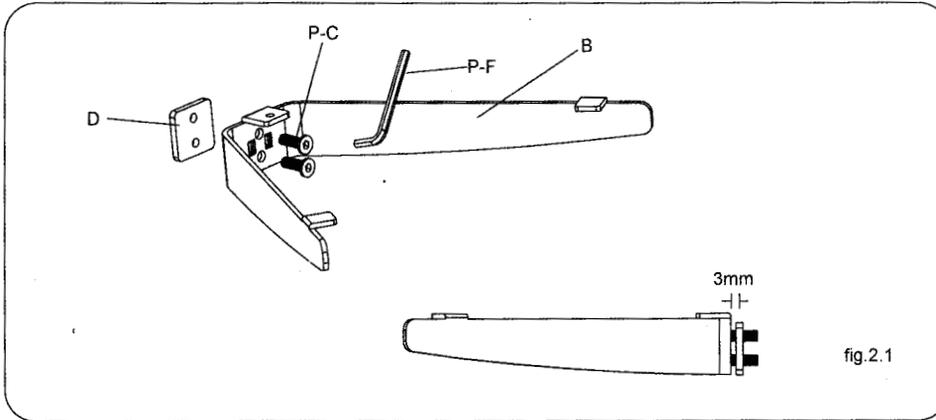

fig.2.1
- Attach the connect piece to the glass holder using two screws and space reserved 3mm as shown in fig.2.1